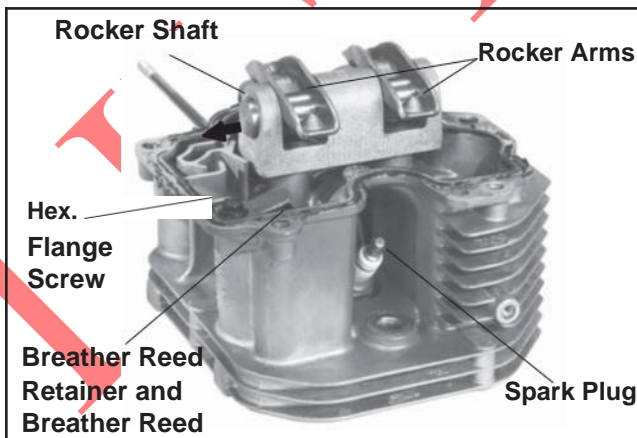

Figure 11-40. Installing Rocker Arms (Rocker Bridge Type).
4. Rocker Bridge Heads—Figure 11-40